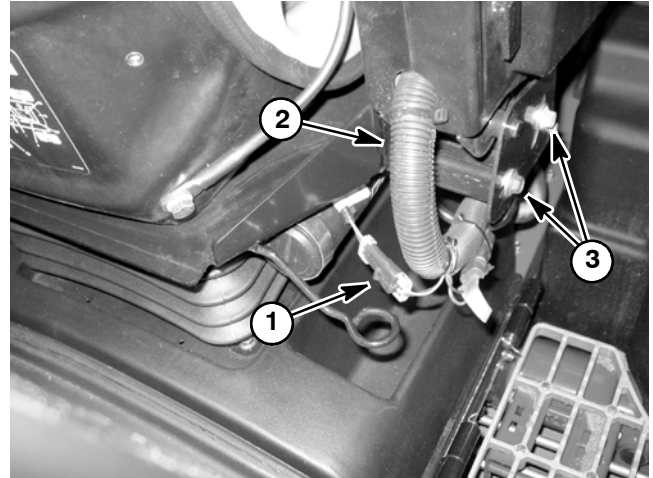

Figure 16
3. Disconnect seat switch electrical connector from wire harness (Fig. 16).